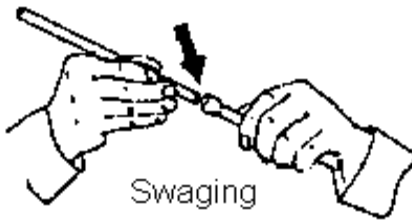

Figure 9, Swaging
- **Swaging.** Swaging is the process by which the end of the one piece of tubing is stretched or expanded so that the end of another piece of tubing of the same size will fit into it (Figure 9). The joint will then be sealed by soldering or brazing. By swaging the use of a fitting is eliminated.